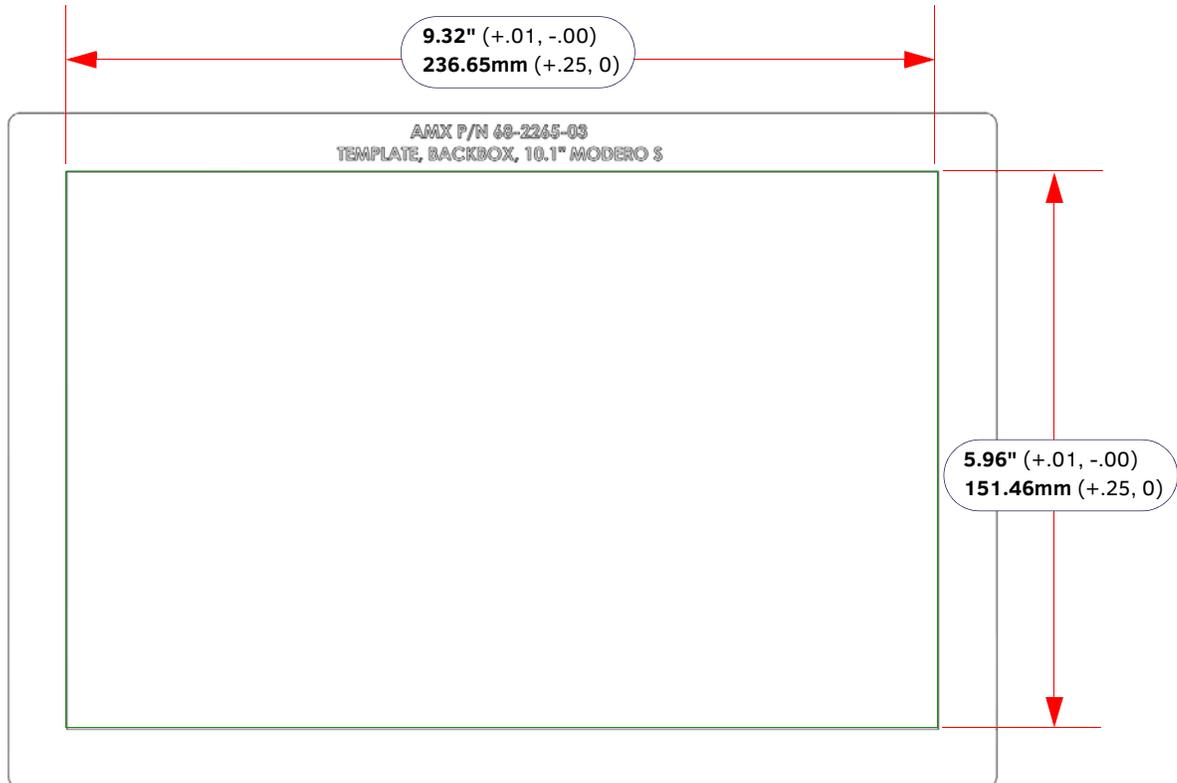

FIG. 25 MSD-1001-L/2 Cutout Dimensions
- **MSD-1001-L** - Template, Backbox, 10.1" Touch Panel, Modero S Series (**68-2265-03** - see FIG. 25 on page 29)